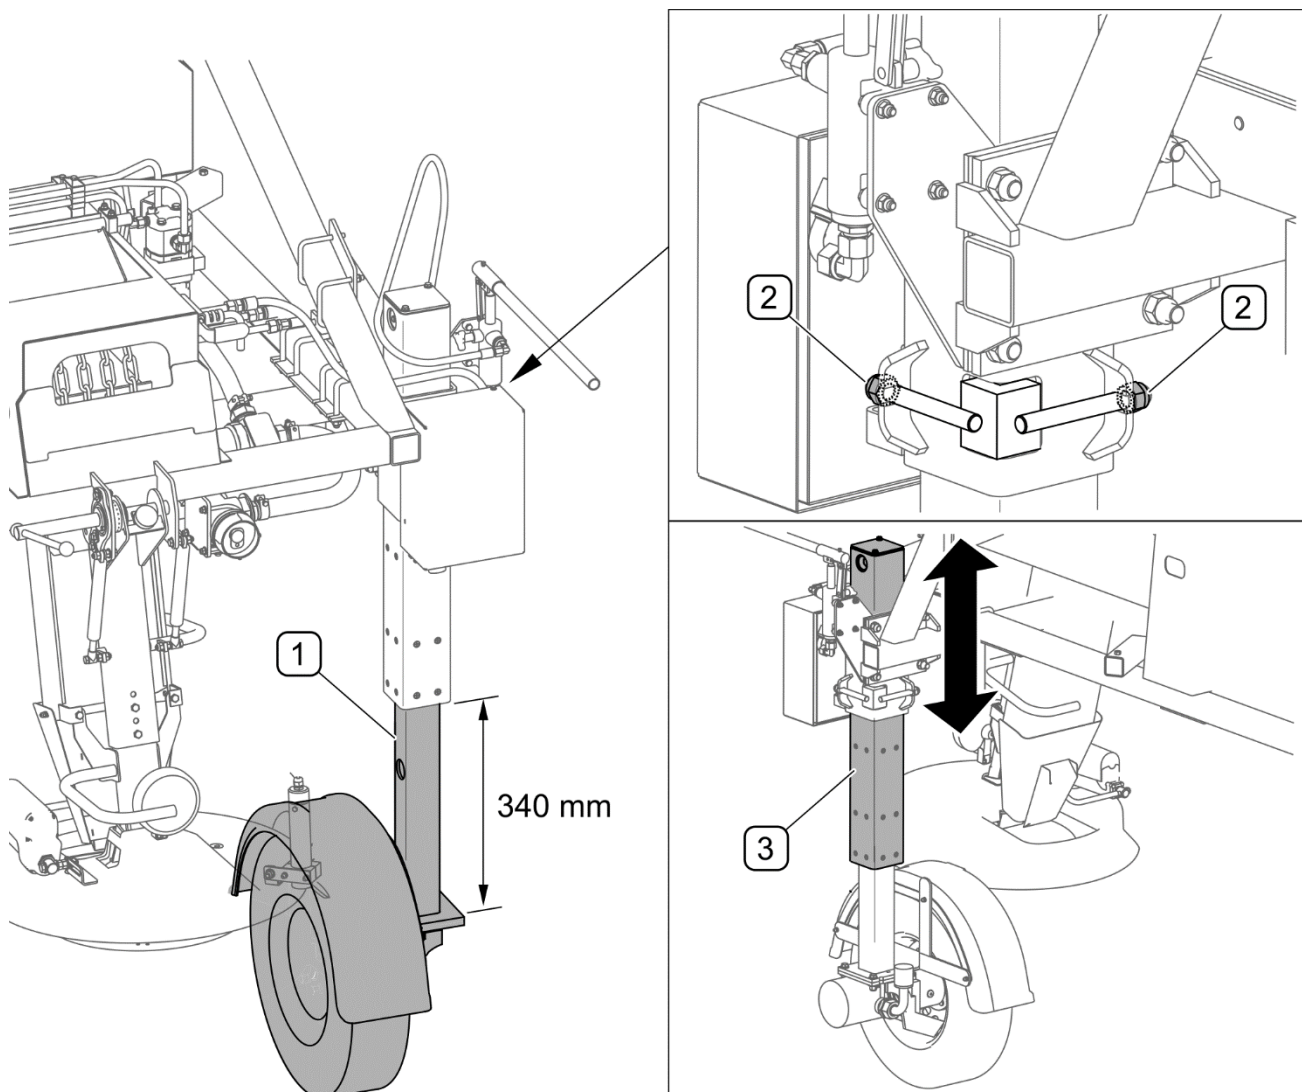

FIG. 4.14 **Setting the height of the pump drive wheel column**
(1) - wheel column; (2) - nut; (3) - wheel column guide
Lower the column (1) of hydraulic system pump drive wheel (see 4.7 MACHINE OPERATION). After lowering the wheel to the ground, check (FIG. 4.14) the distance